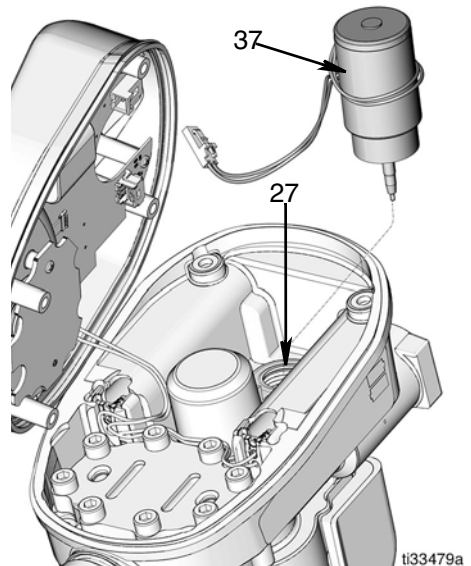

FIG. 25
6. Loosen and remove solenoid (37) (FIG. 25). The trip rod assembly (27) is located below the solenoid.